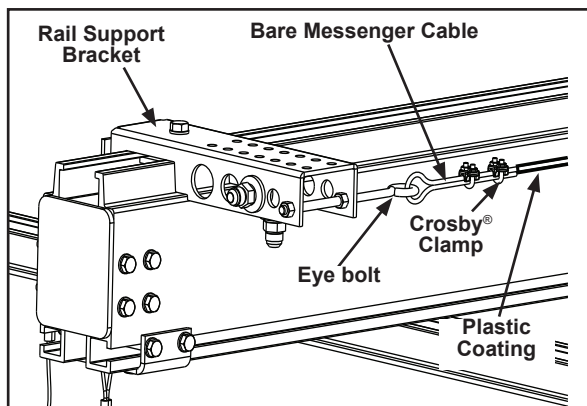

Figure 3-123
- Step 6. Attach eye-bolt to rail support bracket assembly (bracket with fittings). See Figure 3-123.
- Step 11. Loop end of messenger cable around eye-bolt. Attach Crosby® clamps over dead end of stripped cable with cable resting in saddles. Tighten nuts on clamps, alternating sides. See Figure 3-123.